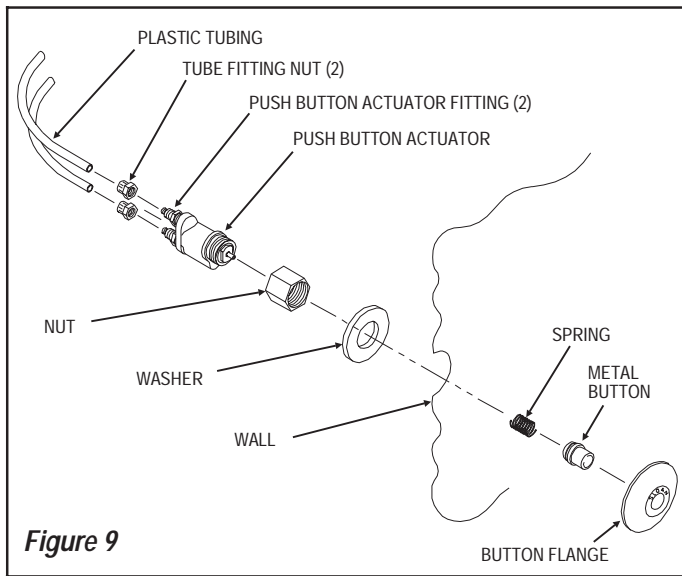

Figure 9
**INSTALLATION OF MODEL HY-108-A METAL PUSH BUTTON ACTUATOR (Figure 9)**